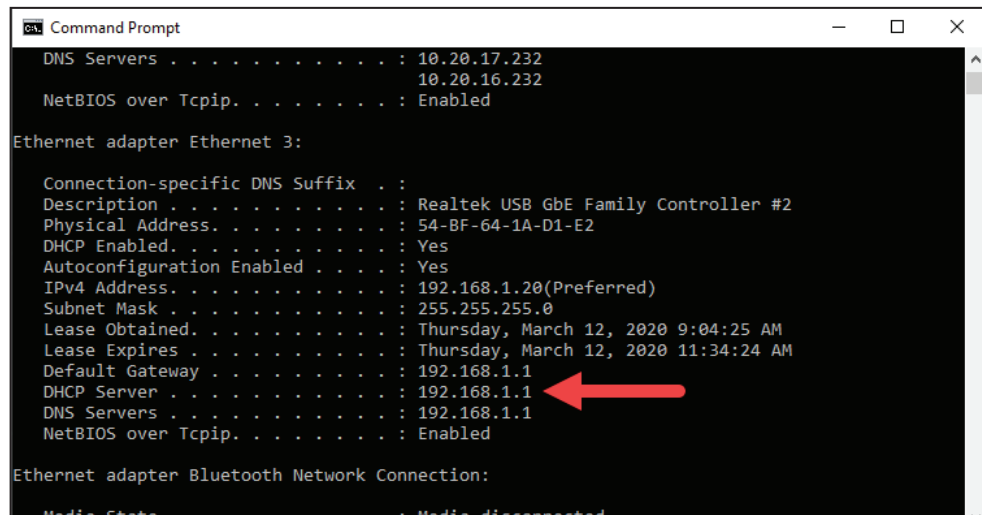

Figure 4. A successful ipconfig/all reply from the command prompt.
STEP 3. After allowing approximately 3 minutes for the communications gateway to boot, a confirmation the PC has successfully joined the communications gateway network may be observed by launching an MSDOS command window and running 'ipconfig /all' at the command prompt. An output showing all the IP interfaces for the host system will be displayed. Identify the Ethernet interface that has the cabled connection to communications gateway Ethernet Port 1 and examine the output for that interface. Screen information for the interface supporting a successful connection when using DHCP will resemble Figure 4.